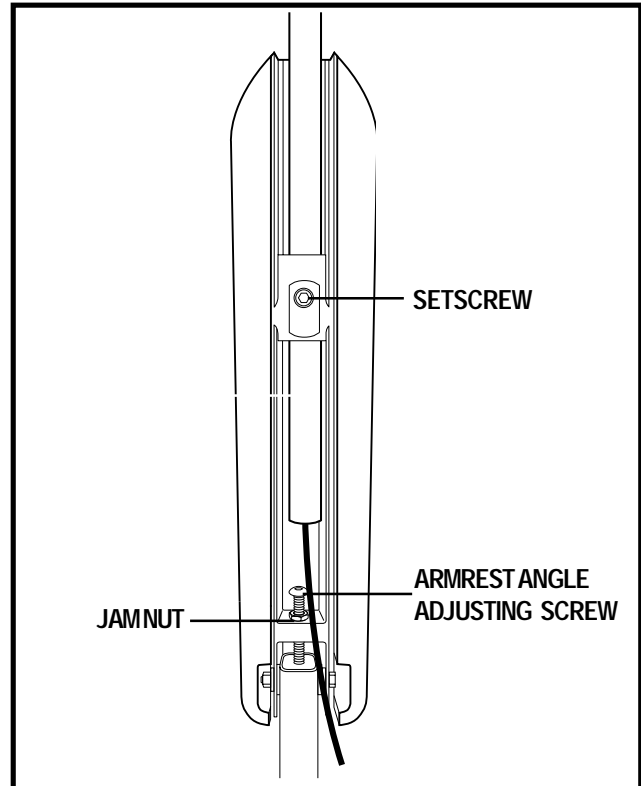

Figure 14. Underside of Armrest
1. Flip up the armrest and loosen the setscrew. See figure 14.
1. Lift the armrest straight up so that it is perpendicular to the floor. See figure 14.
The controller can easily slide out away from the armrest, or in toward the armrest. See figure 14.